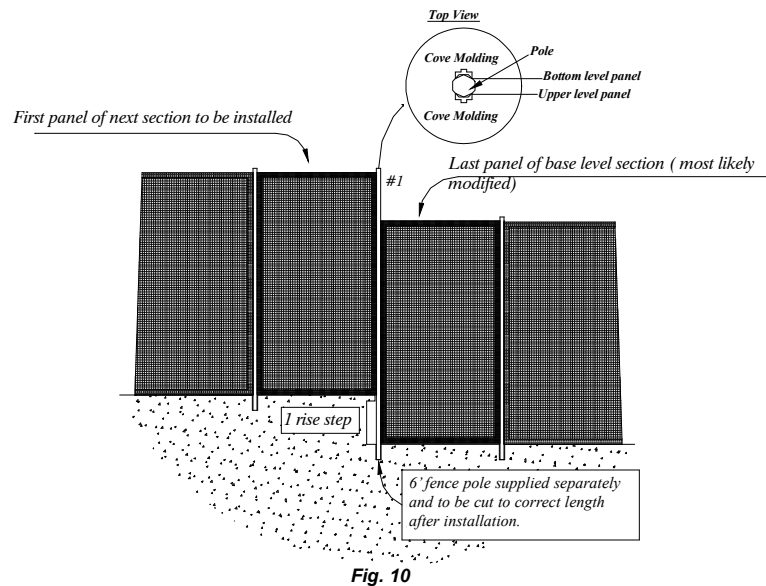

Fig. 10
Install your last pole before a step/rise, as close to the bottom of the step (pool level) as possible. Modification of the last section may be necessary at this point for a proper fit. (See Section Modification, page 3). Remove the last pole in the section before a step by taking off the screws and cove molding. Then, re-attach the material to a 6' pole starting 3" from the bottom of the pole. (6' poles must be ordered as an additional hardware item when required). See fig 10
Once you have installed your 6' pole (pole #1 in fig.10), take your next section run (20', 10', or 5') and remove the first pole, so that you now have one piece of loose material at the end of your section. Attach the loose material to the 6' pole by using the screws, cove molding strip & binding supplied. This cove molding strip will attach on the side facing away from the water. (NOTE: Bottom of loose material must be positioned 3" plus the height of the rise from the bottom of the pole.)
Install the last section of the fence with the 6' pole as described above. (See figure 10) Now, using the **2 Step Kit** follow the directions below.
2. Attach this finished edge to the opposite of pole #1, (see inset, fig. 10), using the loose cove molding and screws from the step kit. Follow step 6c from Section Modification (page 4).